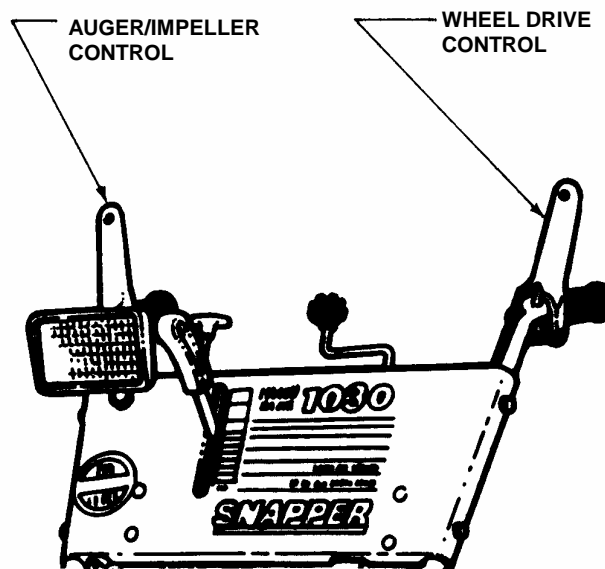

FIGURE 2.6
1. Move auger/impeller control lever against handle to engage auger/impeller. See Figure 2.6.
- IMPORTANT:** This snow thrower has six forward speeds and one reverse speed. See Figure 2.6.
1. Pull auger/impeller control lever against handle to engage auger/impeller. See Figure 2.6.